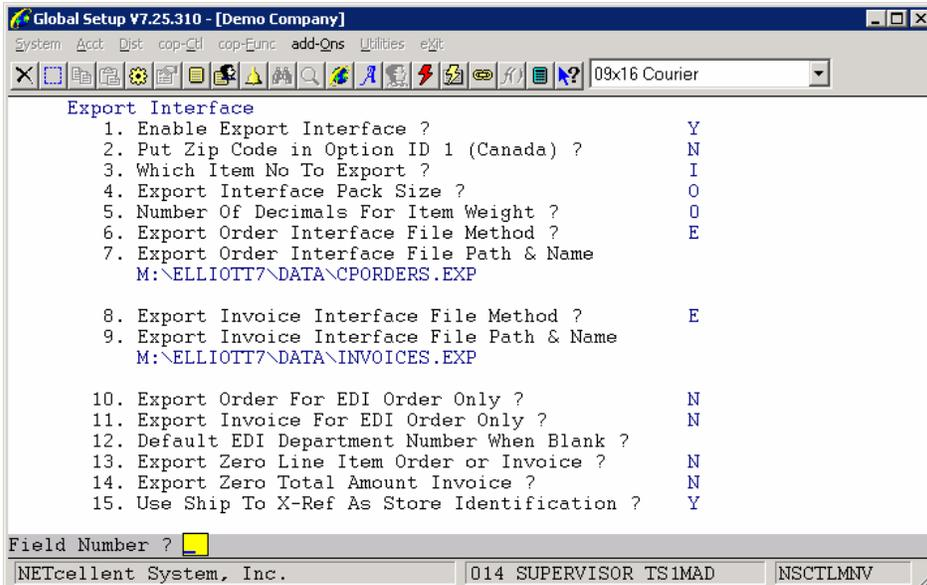

Figure 1 - The setup screen for the export feature.
You should be able to see a screen similar to figure 1. Please be aware that the Sales Export function requires a separate license and you will not be able to access this function if you are not licensed for it.
10. **File Append or Overwrite (A/O) ?:** Do you want to overwrite your ASCII file (defined in Figure 1 Number 7) so that all other data in the file will be deleted? Or do you want to append, or add, the new data to the file? If you answer "A", the data will be appended. If you answer "O", the file will be overwritten.